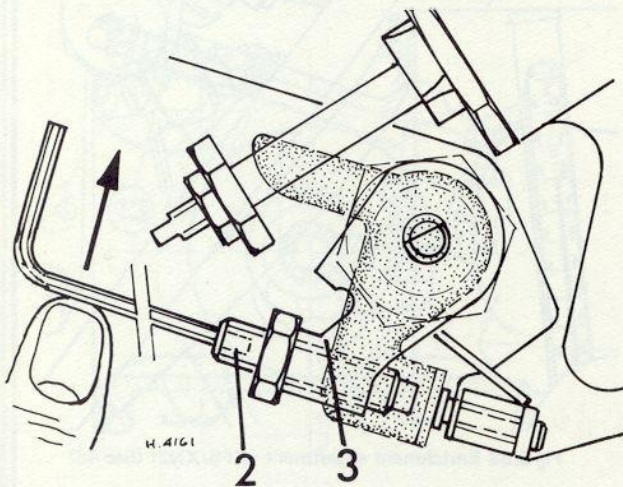

Fig 3.55 Idling mixture adjustment (Sec 47)
4 Next raise the enrichment lever (3) (Fig. 3.55) slowly. The engine speed should increase slightly to between 1020 and 1050 rpm for a new engine or 950-970 rpm for a well run in engine.